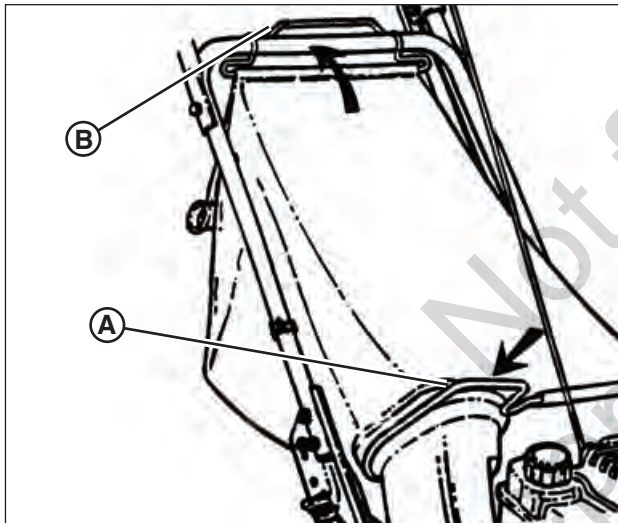

Figure 12: Installing the grass bag
2. Install the grass bag by sliding the connector (**A**, **Figure 12**) over the adapter flange.